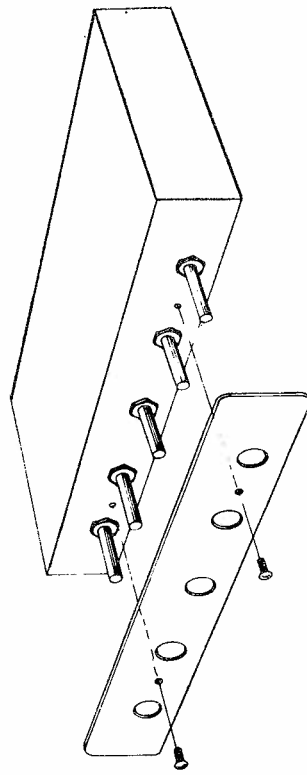

Fig. 9
- 7) Mount the control plate by slipping it over the control shafts and using two #4-40 X 1/8 B.H. screws to fasten it to the front chassis apron (see Fig. 9).